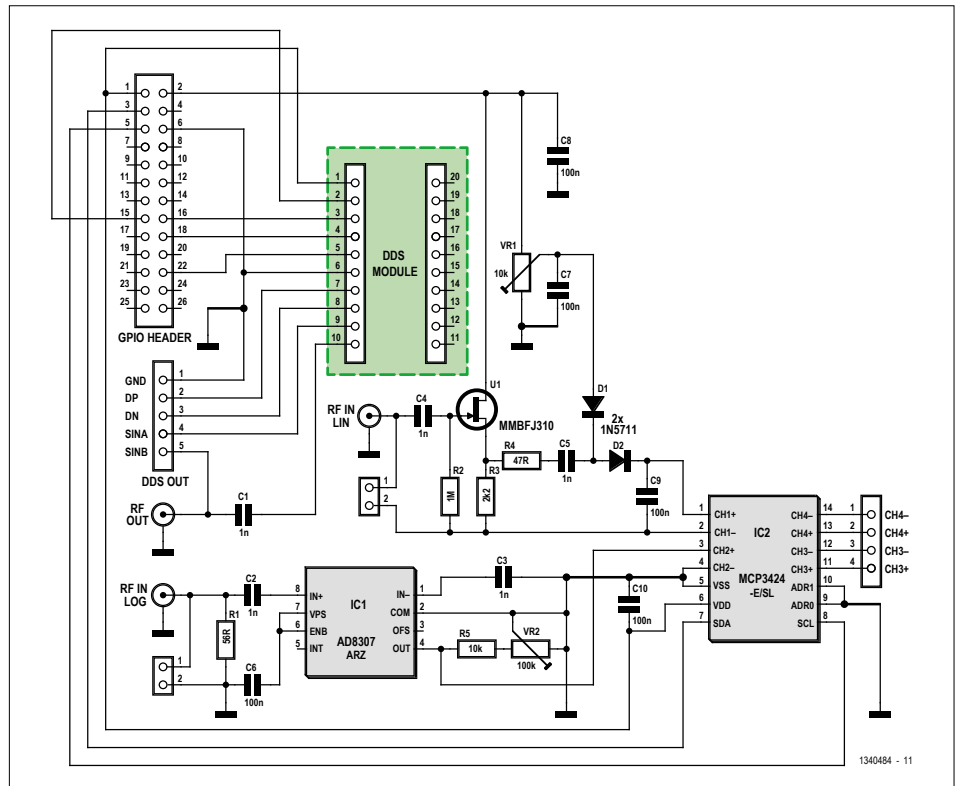

Figure 2. Schematic of the Raspberry Pi controlled Wobblator. The DDS module is an off the shelf module.
**Figure 2** shows the latest version of the RPi hardware extensions that together form the wobbulator.